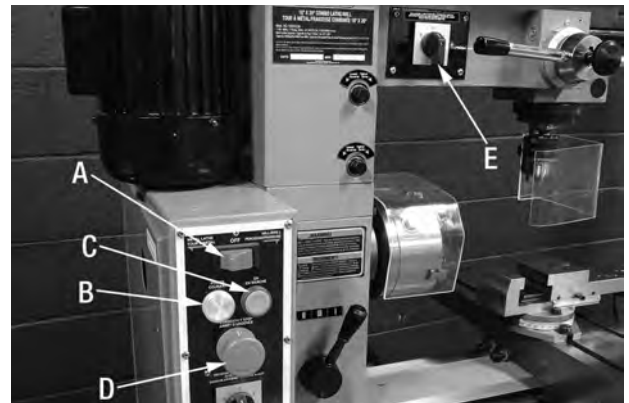

FIGURE 37
Lathe/OFF/Mill Selector Switch (A) Fig.37.-
Power Indicator (B) Fig.37.-
On Switch (C) Fig.37.-
Emergency Stop Button (D) Fig.37.-
Forward/Reverse Switch (E) Fig.37.-